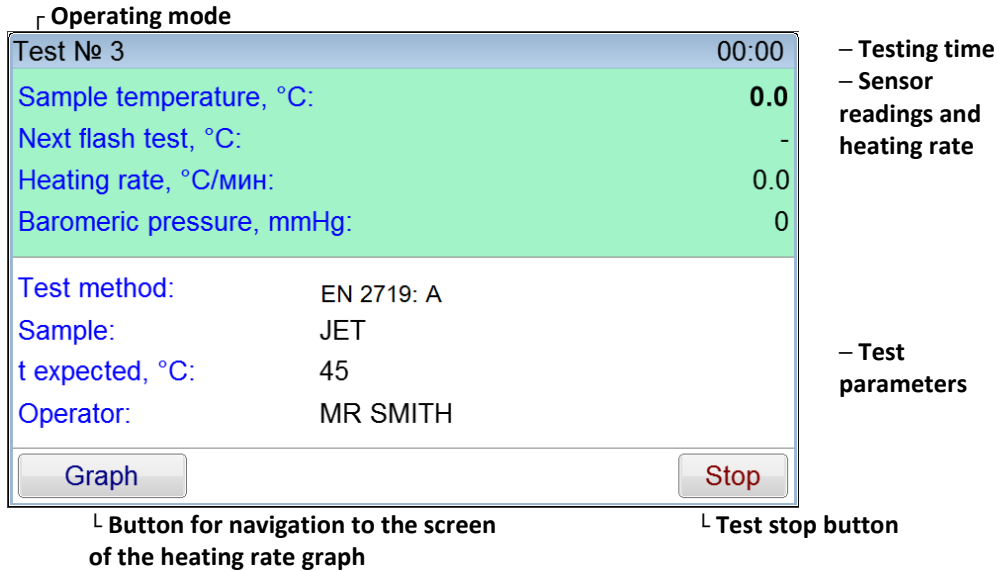

Figure 7 – Test window
4.5.4.1 After pressing “**Test**” button in the test preparation mode the following is displayed on the screen (shown in Figure 7)